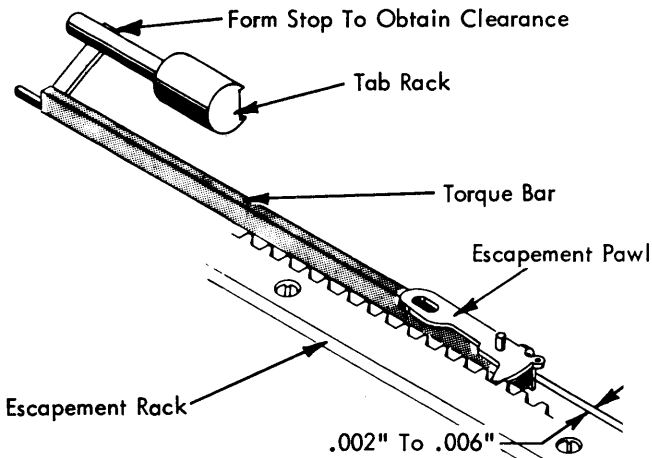

FIGURE 96. *Torque Bar Stop (Old Style)*
- b. Old Style - Form the torque bar stop located at the left end of the torque bar so that a clearance of .002" to .006" exists between the torque bar and the lug on the escapement pawl (Fig. 96).